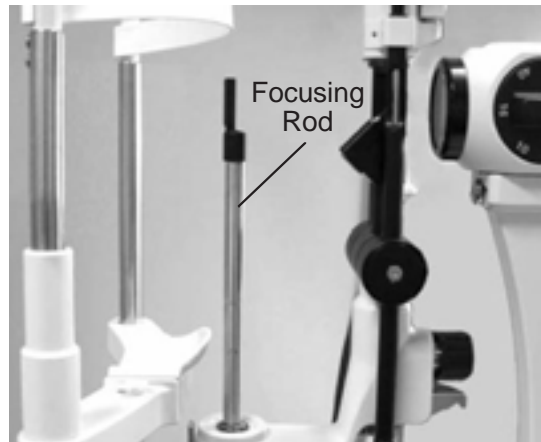

Figure16 Install Focusing Rod
5. Plug in the Power Connector into the Camera Power inlet. Shown as (E)., Refer Figure. 16.
2. Insert the Focusing Rod in the pivot post of the instrument body to make rough PD and focus adjustments. Refer to Figure 16.
4. Using the Slit Width Knobs, adjust the projected slit so that the thinnest slit is shown on the Focusing Rod. Refer to Figure 16.